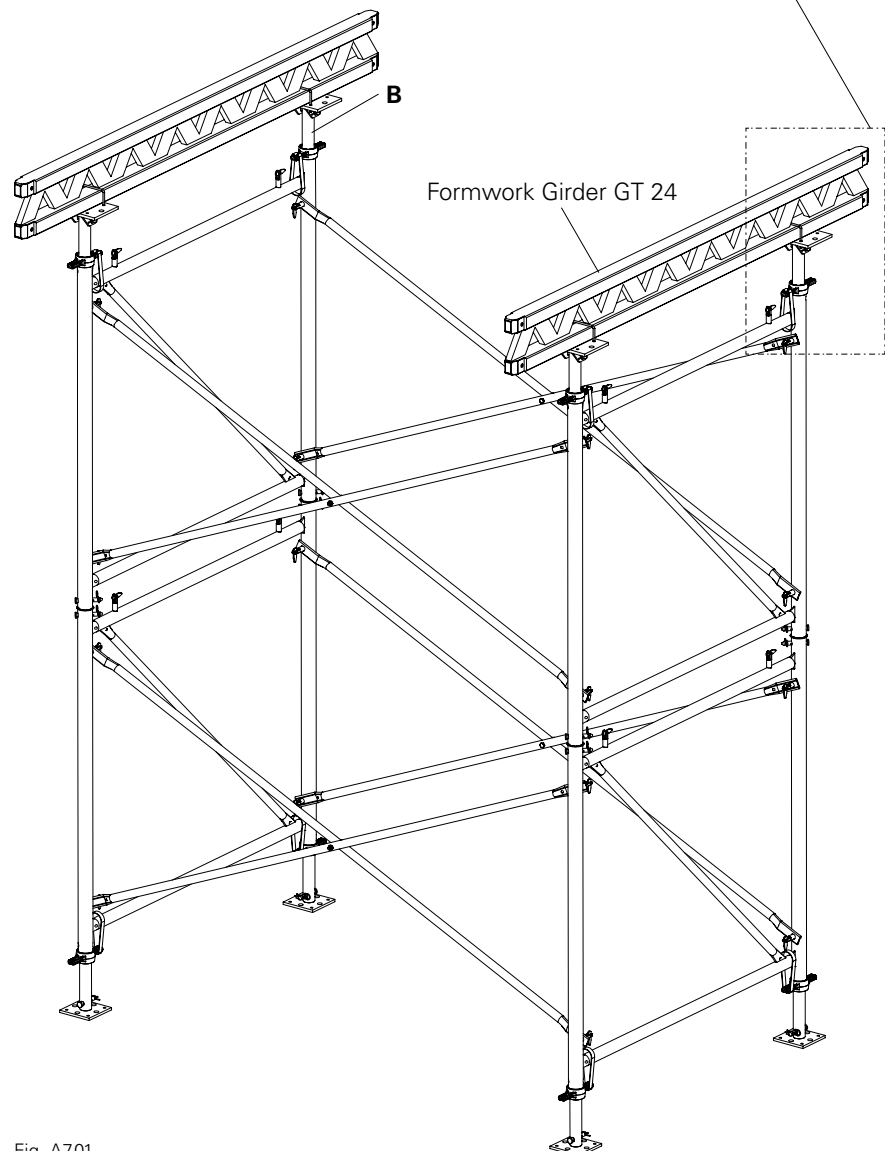

Fig. A7.01
4. Fasten the Girder Straps TB (**20**) onto the head plates for the Spindle Tubes TR 48 (**10**) with nuts. (Fig. A7.01 + A7.01a)